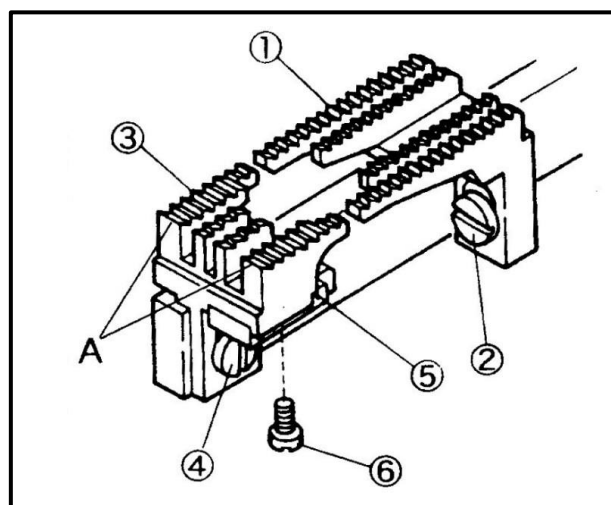

Fig.59
Fix the needle guard(rear) ⑤ on the main feed dog and tighten it at the most rear position with the screw ⑥ slightly. (Fig.59)